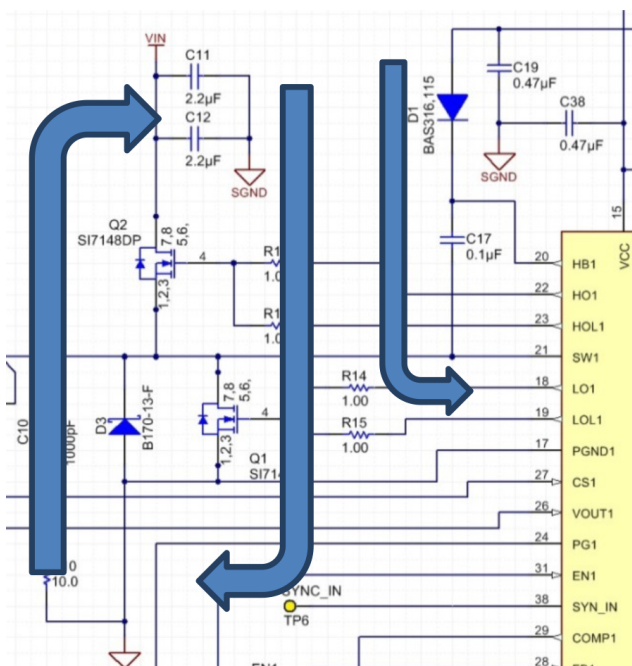
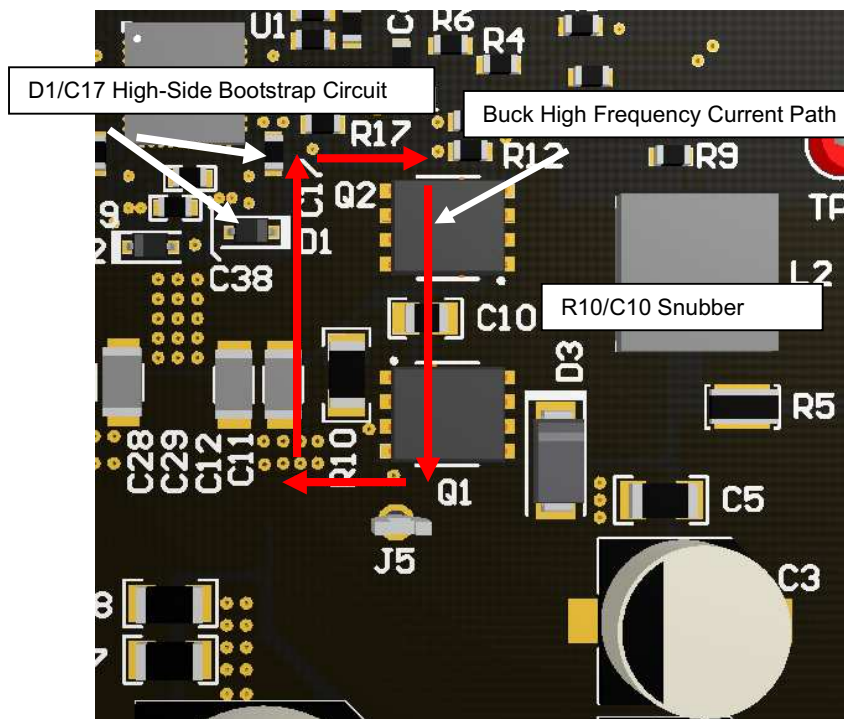

Figure 41. Synchronous Buck Power Flow
Figure 42. Synchronous Buck High Frequency Current Path
- Locate the gate drive components (D1 and C17) together and near the controller IC; refer to Figure 41. Be aware that peak gate drive currents can be as high as 4 A. Average current up to 150 mA can flow from the VCC pin to the V_{CC} capacitor through the bootstrap diode to the bootstrap capacitor. Size the traces accordingly.
- Figure 41 shows the schematic of the high frequency loops of one synchronous buck channel. The current flows through Q1 and Q2, through the power ground plane and back to VIN through the ceramic capacitors C11 and C12. This loop must be as small as possible to minimize EMI. See Figure 42 for the recommended PCB layout.